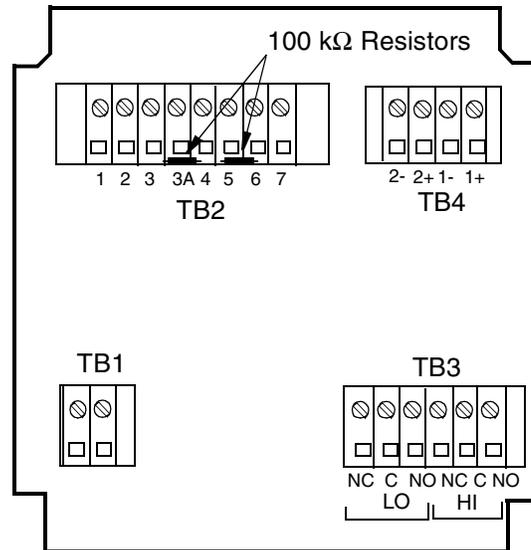

Figure 19. Thermistor Temperature Simulation (Metal Version Shown)
1. Connect an ammeter/voltmeter to the analog output terminals. See Figure 19 and “Wiring of General Purpose Version” on page 17 or “Wiring of Field Enclosure Version” on page 18.